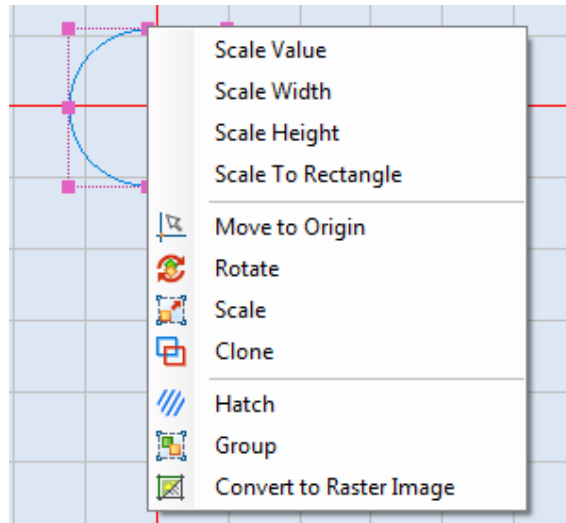

FIGURE 393: THE BOUNDARY BOX POPUP MENU
1. Display the boundary box popup menu by right-clicking on any Shape(s) with a boundary box. This displays the boundary box popup menu shown in Figure 393 on page 317.
This displays the boundary box popup menu shown in Figure 393 on page 317.